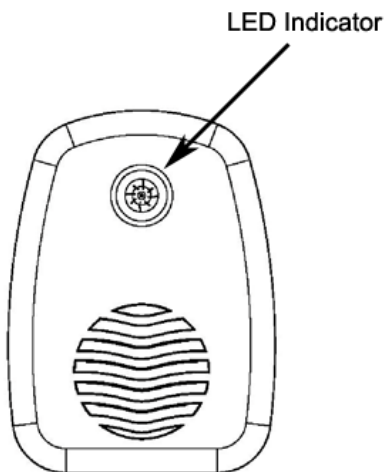

Figure 4
4. After inserting the batteries, the remote sensor LED indicator will light for 4 seconds, and then flash once per 60 seconds thereafter, as shown in Figure 4 (note that the LED is underneath the plastic).